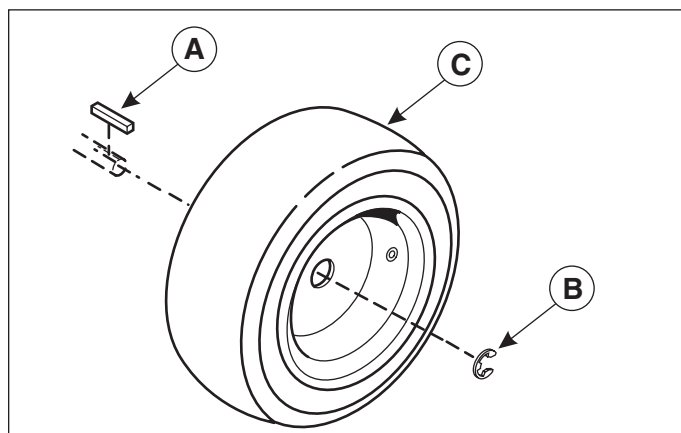

Figure 11. Axle Shaft
4. Remove the hardware retaining the wheel assembly to the axle (Figure 11) and lubricate the axle shaft using anti-seize compound or lithium grease.
5. Reinstall the components in reverse order of disassembly and lower the unit. Be sure the key (A, Figure 11) is in place in the axle keyway.